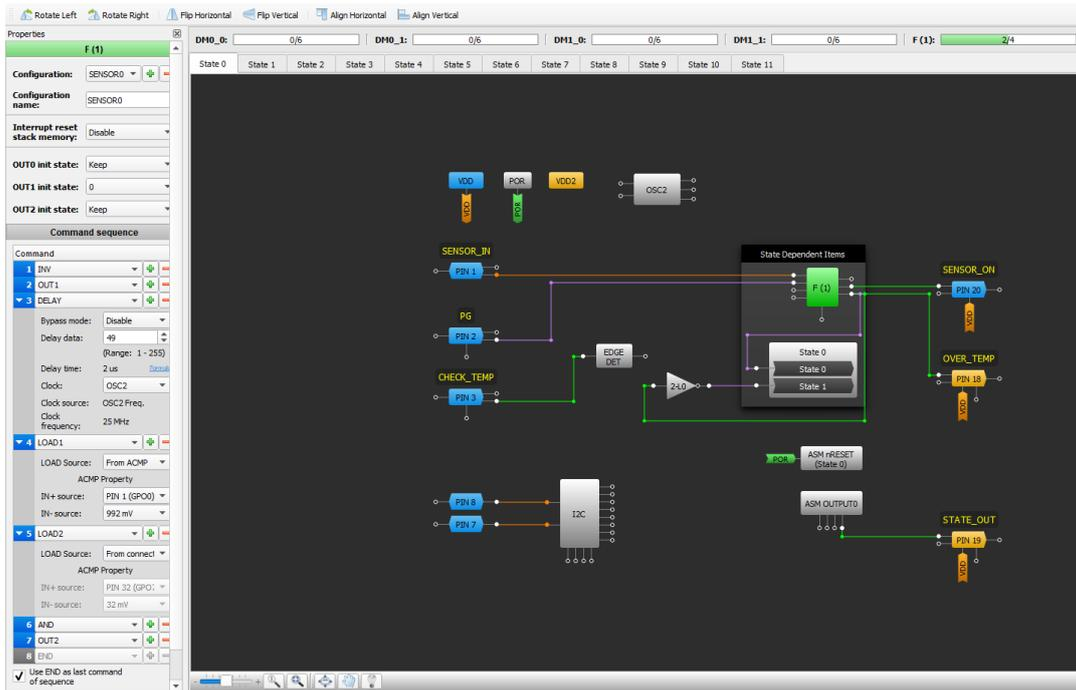
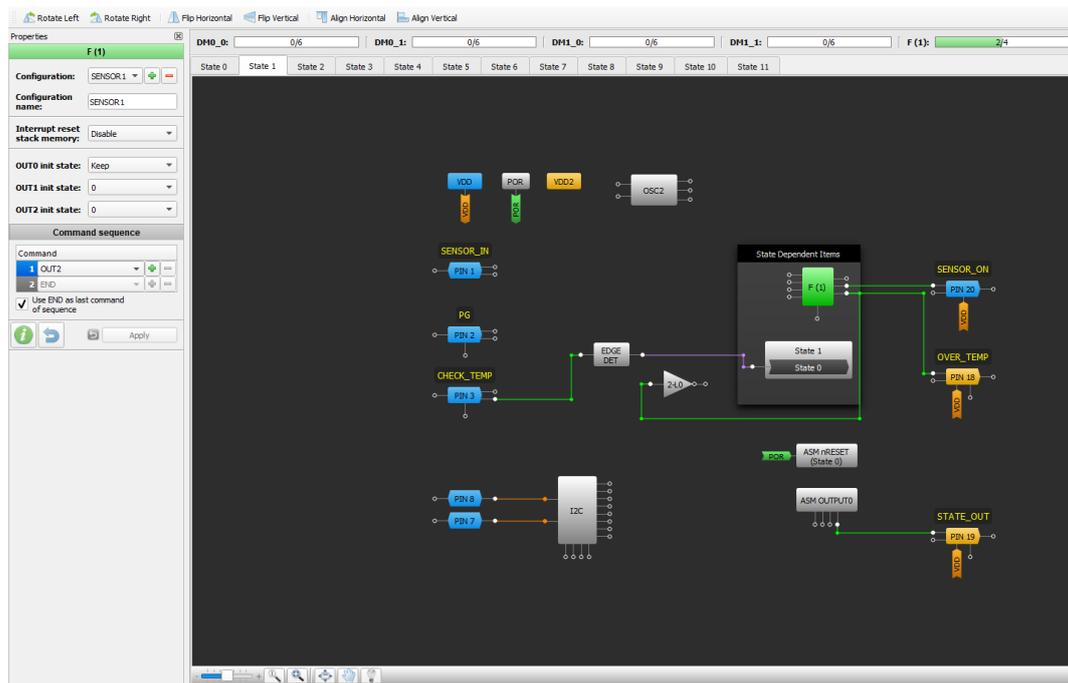
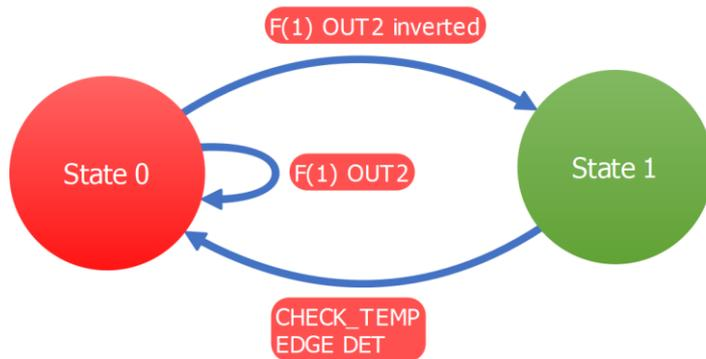

Figure 6: Example #1 Schematic, State 0
Figure 7: Example #1 Schematic, State 1
Figure 8: ASM Diagram
Example #1 of the datasheet provides an example using the F(1) block to detect the voltage of a sensor when the state changes in the ASM (Figure 5). OUT1 is connected to PIN #20 (SENSOR\_ON) and OUT2 is connected to PIN #18 (OVER\_TEMP). The delay on command 3 is defined as 2  $\mu$ s. LOAD 1's ACMP IN+ is connected to PIN#1 (SENSOR\_IN) and has a threshold of 992 mV. LOAD 2 is connected to PIN #2 (PG). See Figure 6 and Figure 7 for a view of the schematic in GreenPAK Designer. See Figure 8 and Figure 9 for a view of the ASM settings.